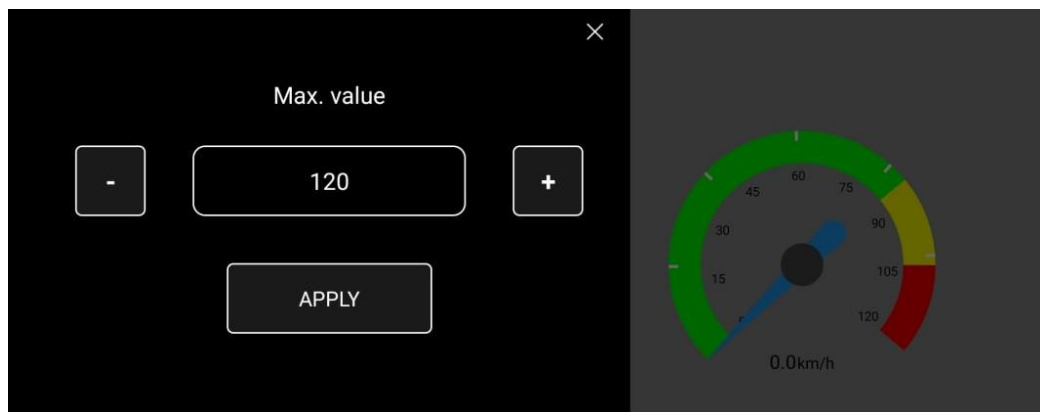

fig.4.18. Setting up the maximum value
- **Minimum and maximum values** set the scale range, divided into the specified number of parts (fig.4.18).